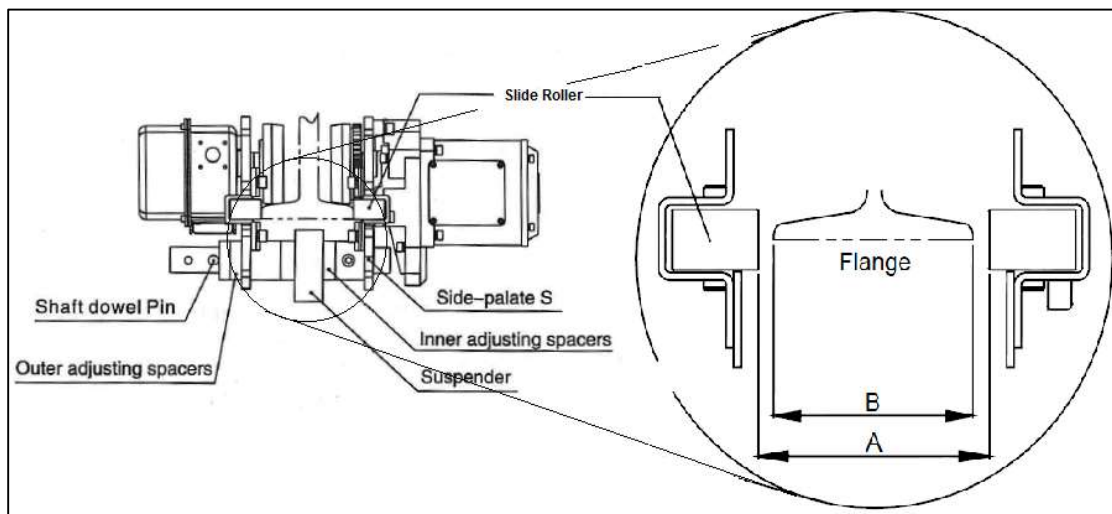

Figure 5.2.1.7
7. Make sure both side plates are spread fully outward and measure dimension "A". Dimension "A" must be $\frac{5}{32}$ " (4 mm) greater than "B" (refer to Figure 5.2.1.7).